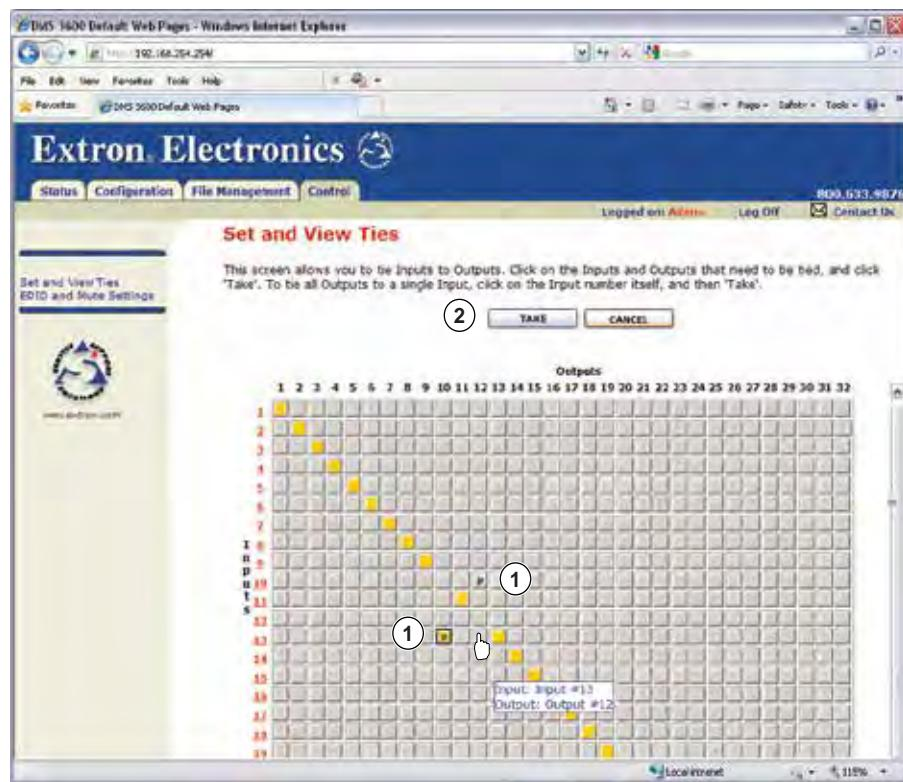

Figure 65. Set and View Ties Page
You can create ties on the Set and View Ties page (see figure 65). Access the Set and View Ties page by clicking the **Control** tab.
A "P" (for pending) appears in the button (see figure 65 [①]).